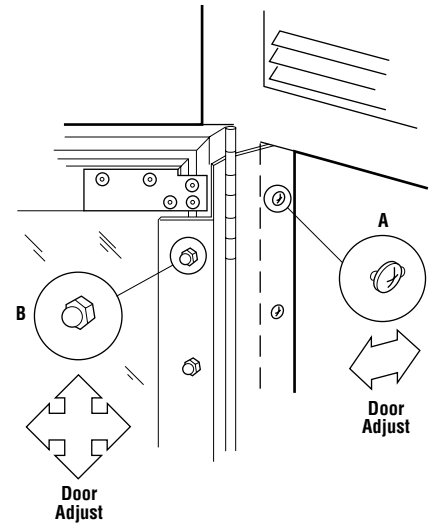

Figure 6
Should it become necessary to remove the door assemblies from the fireplace, always remove the five (5) Phillips head screws that attach the door hinge to the fireplace, identified as (A) in Figure 6.